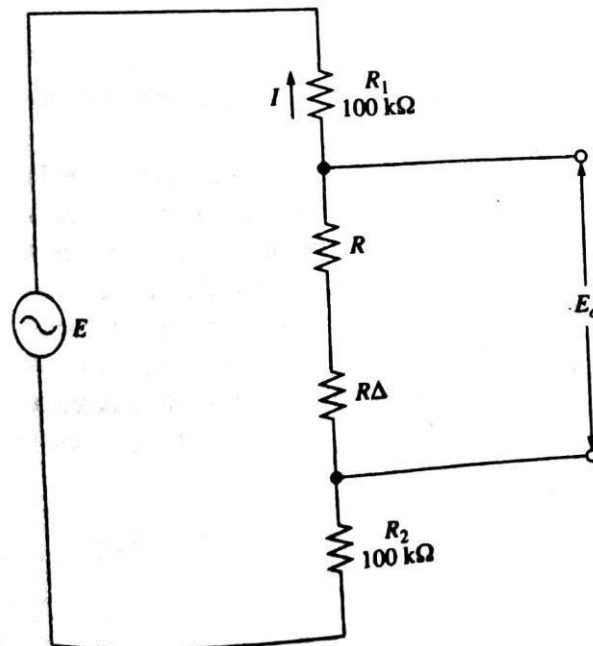

Figure 16: Equivalent circuit-Pneumograph
- The signal voltage applied to the differential ac amplifier is the voltage drop across the resistance, representing the patient's thoracic impedance. (figure 16)